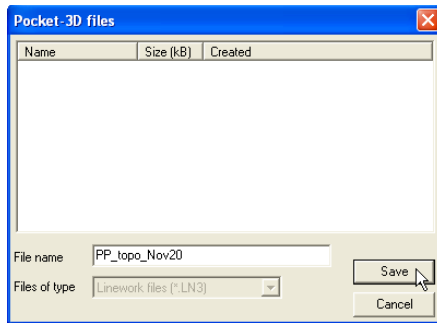

Figure 4-11. Export Linework File to Pocket-3D Controller
3. On the **Pocket-3D files** dialog box, do one of the following and click **Save** (Figure 4-11 on page 4-10):